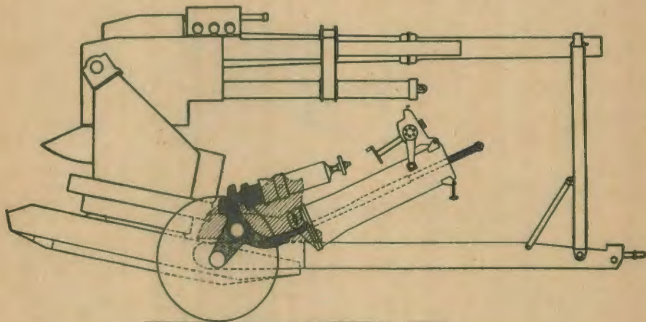

FIGURE 27.
■ 31. **EMPLACEMENT WITH PRIME MOVER.**—*a.* In figure 27 the gun is in the traveling position, the bogie axle is approxi-